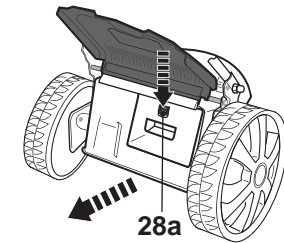

Fig. 28
- Press the unlock button (28a) downward to disengage and remove the mulching insert (28) (Fig. 28).